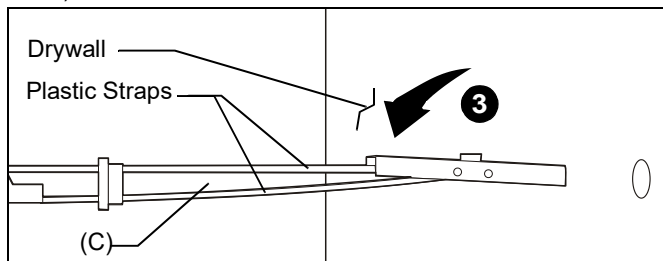

Figure 7
3. Hold metal channel on #10-24 anchor (C) flat alongside plastic straps and slide channel through hole. (See Figure 7)